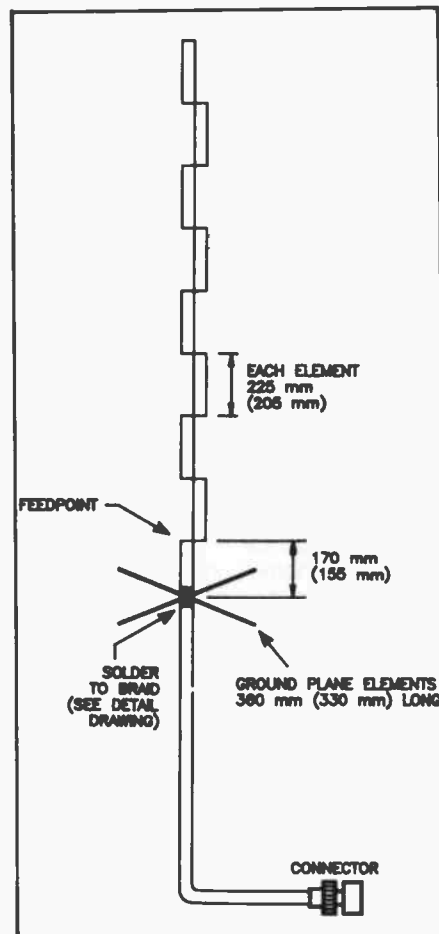

Figure 3. The general form of the UHF coaxial collinear antenna described. Dimensions are shown for the 70cm amateur band and the UHF CB band (in brackets).
The general arrangement and dimensions of an 8-element coaxial collinear array are shown in Figure 3. The dimensions shown put the antenna's centre frequency on 436.5MHz for the 70cm amateur band; the dimensions in brackets put the antenna's centre frequency on 476.9MHz, the middle of the UHF CB band. This makes the array of a size which is readily handled – about two metres tall for the 70cm version, and about 1.8 metres tall for the UHF CB version.
11) Cut two lengths of tinned copper wire or brazing rod to size: each 360mm long for the 70cm amateur band, and 330mm long for the UHF CB band (see Figure 3). If you're using tinned copper wire, straighten it first. This can be done by clamping one end in a vise, grasping the other end with a pair of pliers and giving it a good tug. It will bow a bit after you take it out of the vise, but then you can straighten it easily by hand. Tin the centre of each groundplane element.